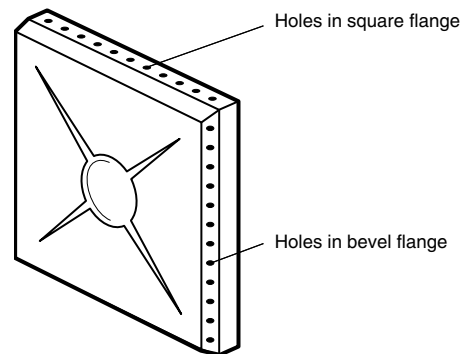

Figure 19
- 3 It is recommended that dwarf walls supporting tanks three or more plates deep should be capped with flat steel strips to give an improved bearing surfaces. (See fig 19)